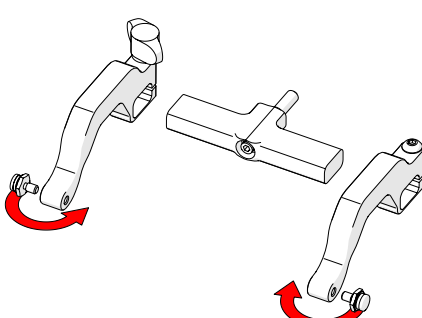

Fig. 203 - Position pivot buttons
5. Position the pivot buttons to the inside of the probe holder arms (Fig. 203).